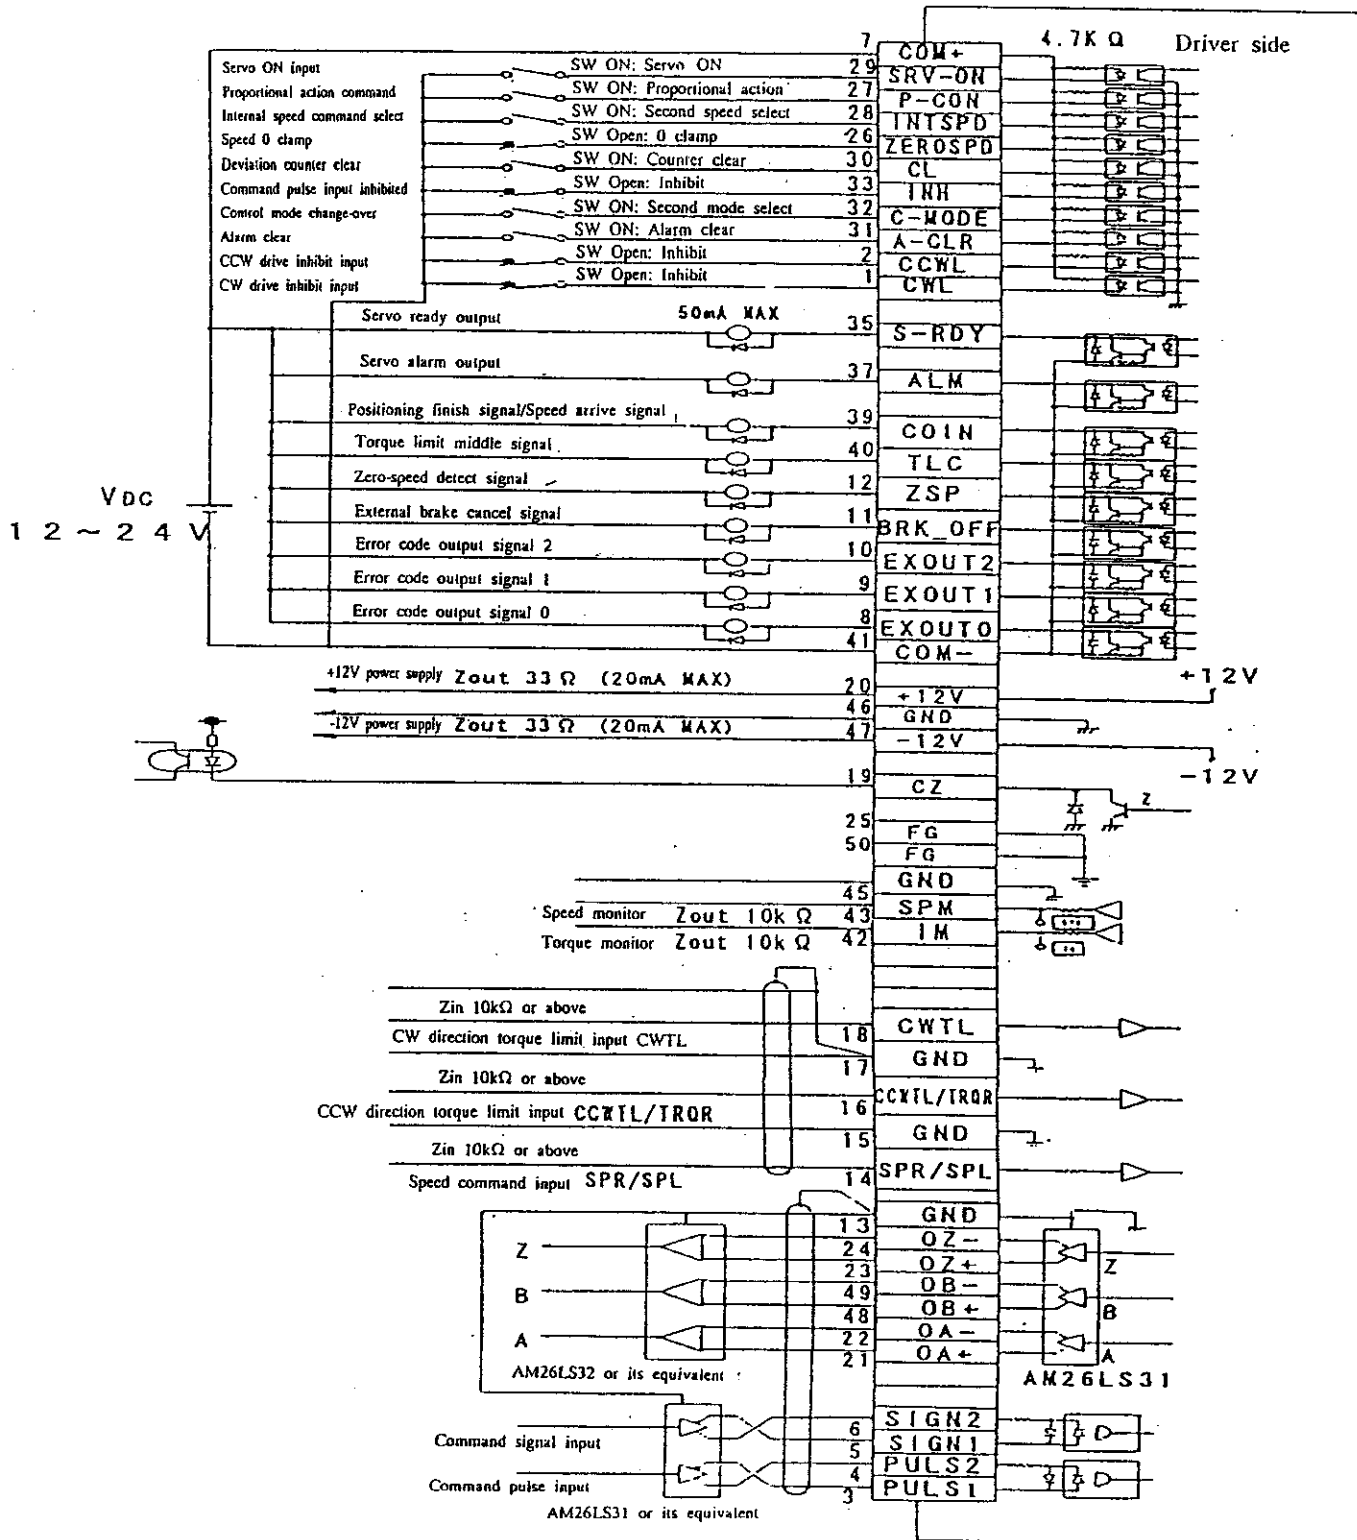

Fig. 5-2 Example of wiring to connector CN I/F
- (1) Please make wiring per Fig. 5-2, "Wiring example to connector, CN I/F".
- (2) Please prepare a power supply for a control signal with DC12-24V, used for external control connected between COM + and COM -.
- (3) Please shorten the wiring of the driver and other equipment as much as possible (3 m or shorter).
- (4) Please separate this wiring from the power lines (R, S, T, r, t, U, V, W, \oplus), as much as possible (30 cm or more). Please avoid passing both wires into the same duct or binding them together. It may cause malfunction.
- (5) Please do not apply more than DC 24V or 50mA, to each terminal of the control output (S-RDY, ALM, COIN, TLC, ZSP, BRK-OFF, EXOUT2, EXOUT1, EXOUT0), or avoid applying reverse polarity. This may cause damage to the driver.
- (6) If you directly drive a relay with the control output terminals, please install a diode in parallel with the relay as Fig. 5-2 shows. If you do not install a diode, or install it in reverse direction, this may cause damage to the driver.
- (7) As per Fig. 5-2, please use shielded, twisted pair wires for a signal line of CN I/F (analog command input, command pulse input, feed-back pulse output of the encoder etc.). Please ground the shield to the signal ground (GND) of the driver. (Though the shield of other equipment normally open, in case affected by extreme noise, connect shield of both driver and other equipment to frame ground.)
- (8) Frame ground terminal (FG) is connected with the earth terminal (\oplus) in the driver.